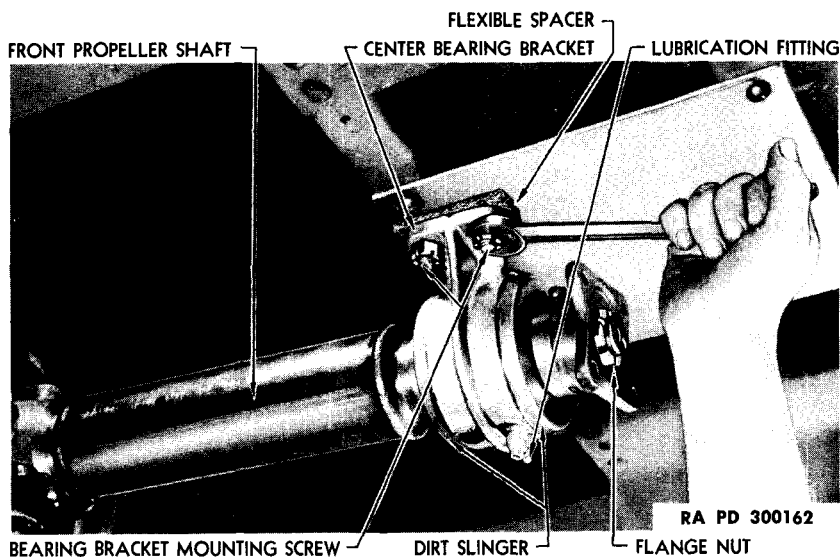

Figure 72—Removing Center Bearing
c. **Front Propeller Shaft with Center Bearing Removal.** Remove nuts, lock washers, and bolts from flange and yoke at front end of rear propeller shaft, and lower shaft to ground. Remove nuts, lock washers and bolts from flange and yoke at front end of front propeller shaft. Remove nuts from four center bearing mounting screws (fig. 72), drop center bearing and shaft to ground. Remove flexible spacers from center bearing mounting screws.
d. **Front Propeller Shaft with Center Bearing Installation.** Place flexible spacers in position over mounting screws (fig. 72) and position center bearing in place. Install nuts on center bearing mounting screws, draw up tight, and secure with cotter pins. Connect front universal joint by installing bolts, nuts, and lock washer through yoke and flange on transmission drum flange. Connect rear universal joint by installing bolts, nuts, and lock washers through flange and yoke of rear propeller shaft.